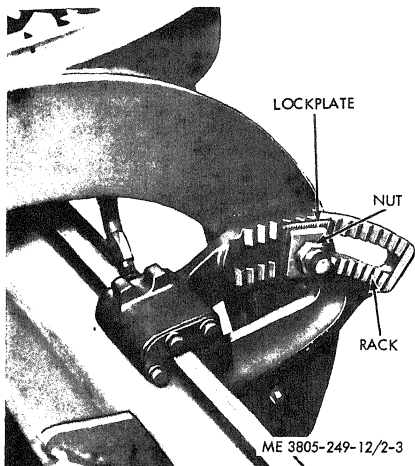

Figure 2-3. Blade tilt adjustment.
(1) For normal operation, set the blade in a vertical position.
(2) To tilt the blade forward or back, lower the blade to the ground, loosen the nut and lockplate (fig. 2-3), and move the grader forward or backward to tilt the blade in the desired direction.